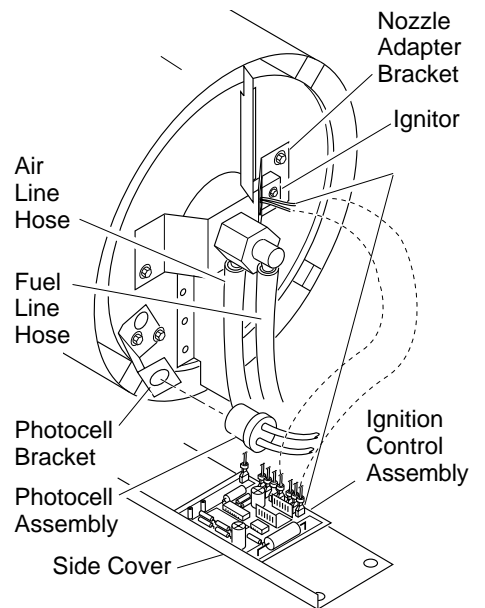

Figure 14 - Disconnecting Ignitor Wires from Ignition Control Assembly
4. Disconnect ignitor wires (gray for 40,000 and 60,000 Btu/Hr models, yellow for 115,000 Btu/Hr model) from ignition control assembly (see Figure 14). Pull the ignitor wires up through the hole in the lower shell.
5. Disconnect fuel line hose and air line hose. Remove photocell from photocell bracket (see Figure 14).